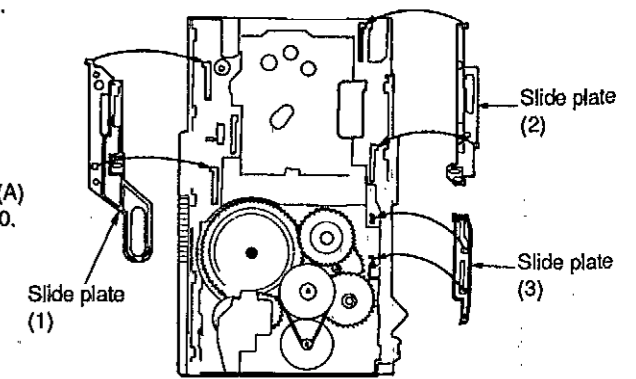

Fig.8
14. Install the slide plate (1), the slide plate (2) and the slide plate (3). (See Fig.8.)